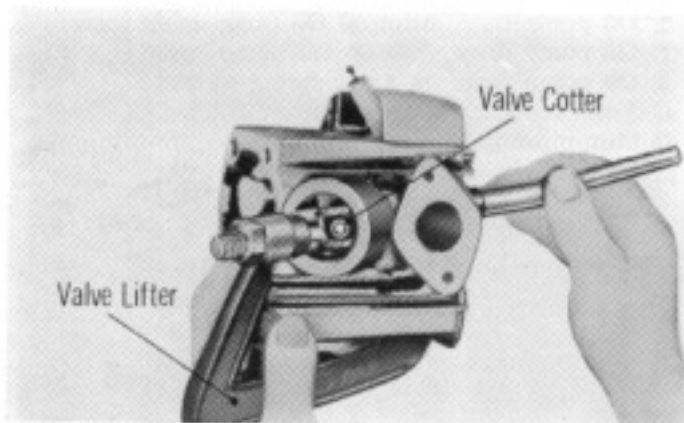

Fig. 16
10. Disassemble the valve by using the valve removal tool (Tool No. 07031-25001) (Fig. 16).